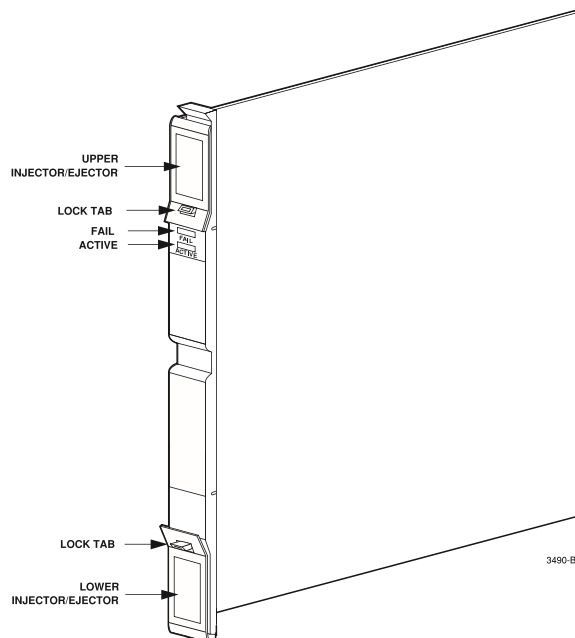

Figure 5-13. Protection Switch and Test Unit (PSTU)
3. Release the lock tabs on the PSTU to free the upper and lower injectors/ejectors as shown in Figure 5-13.